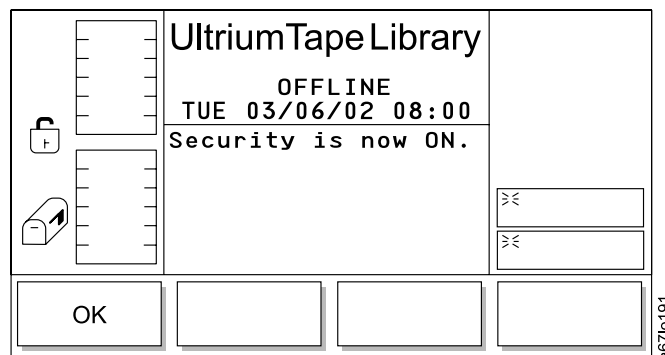

Figure 153. Security On Dialog
- If **Yes/No** is selected, the Security On Dialog displays (see Figure 153).
**Enable Security:** When **Yes/No** is selected from the Secure Dialog and the Enable Security field is checked, the Security On Dialog displays (see Figure 153).